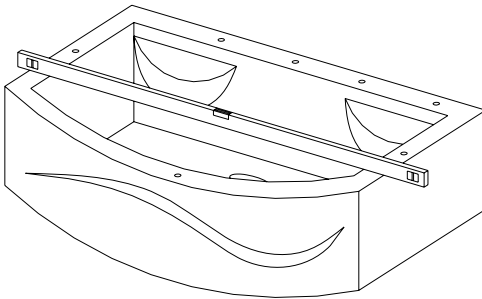

Fig.2
2. Leveling-----Put a level gauge on the basin (as fig. 2 show), measure the basin whether it is level. If not, please loosen the locknut of the fang bolt, level the basin by adjusting the plastic-covered foot (namely the air of the level gauge in the center), then tighten the locknut. This step is very important, if the basin is not level, it will cause the room body slope, unstable, difficulty to install bolts and can not close the door and so on.